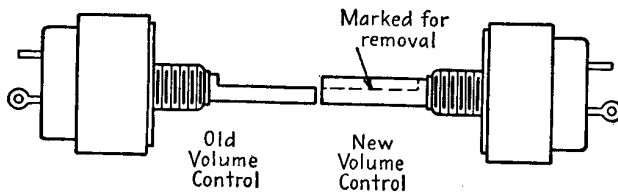

FIG. 11-13.—Marking the volume-control shaft for a push-on knob.
- a. Measure against the original, as shown in Fig. 11-13, and indicate with a mark the amount of shaft to be removed.